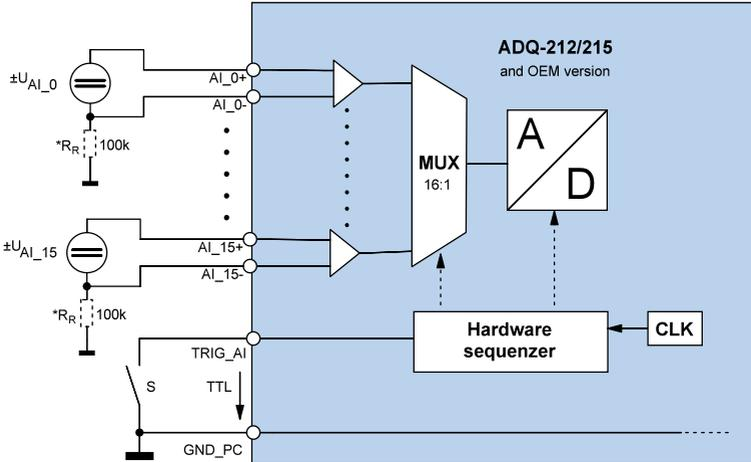

Figure 7: Differential inputs
***TIP:** In some cases it can be necessary to connect the differential input stage with PC ground by a reference resistor R_R (100 k Ω recommended) as shown in Figure 7.